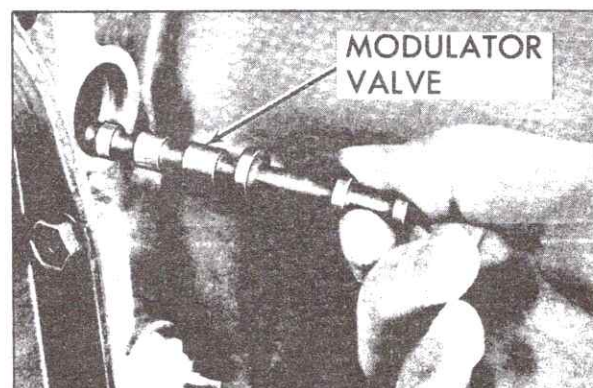

Fig. 7-138 Removing Modulator Valve
3. Remove modulator valve from transmission case, Fig. 7-138.